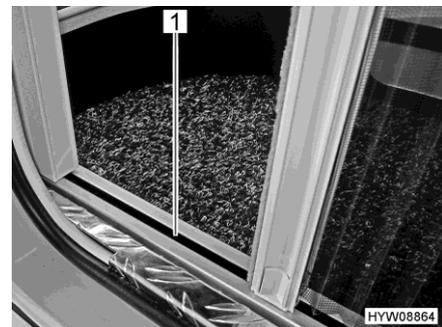

Fig. 38 Insect screen (bottom guide)
- ▷ Hold holding bar with both hands when closing or opening. This reduces the risk of the insect screen getting stuck in the guides (Fig. 38,1).